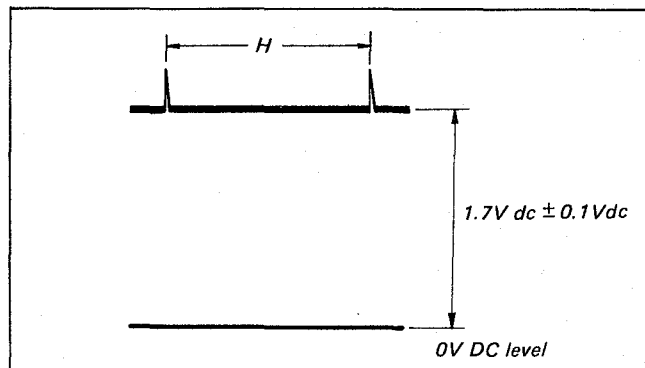

Fig. 5-29. AFC adjustment
- i) Adjust to $1.7V_{dc} \pm 0.1V_{dc}$ with RV006. (See Fig. 5-29.)